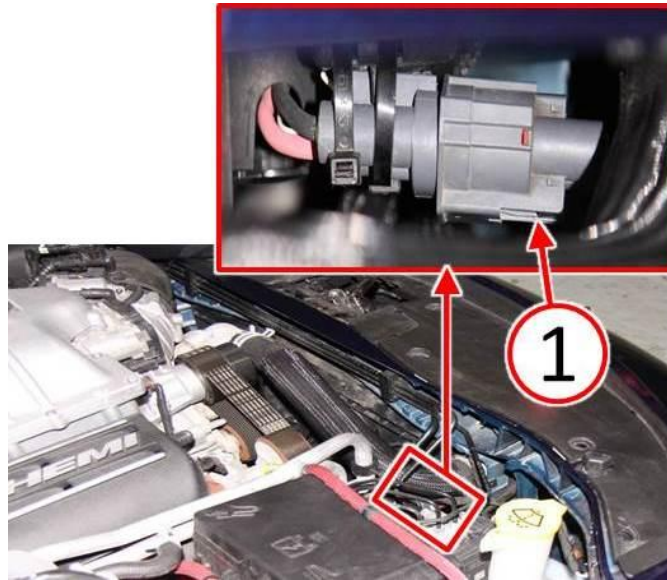

Fig. 20 Connect Fan Electrical Connector
51. Reconnect the electrical connectors to the fan (Fig. 20).